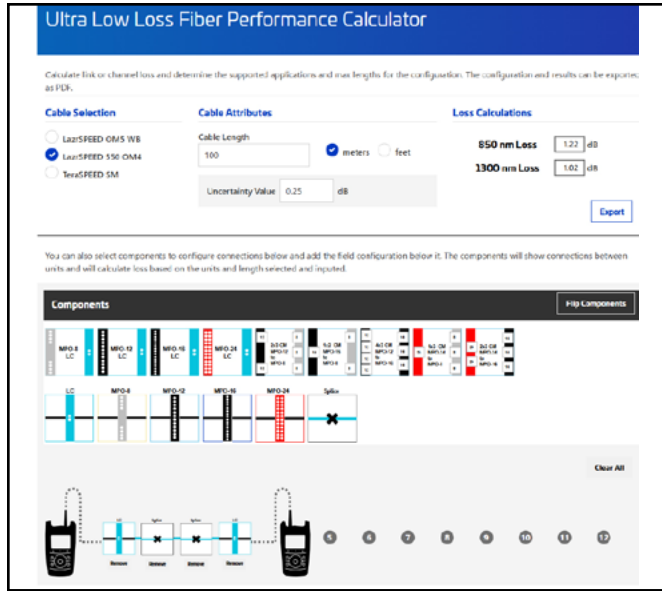
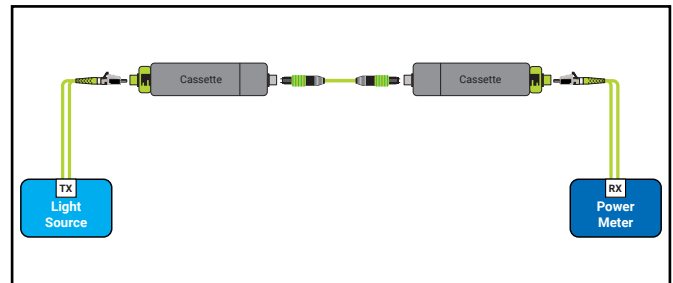

Figure 5: Link segment testing
Figure 6: Link segment testing
Figure 5 shows an example of 100m OM4 Link, with 2 LC ULL connection and 2 splices. The values for 850nm shall be lower than 1.22dB
As illustrated in the example in Figure 6, the MPOs are at the rear of the module and not connected directly to the test cords. If testing 2 fibers at a time, the technician must test all 12 fibers of the MPO link with 6 individual tests. In this case, the link can be tested through the single-fiber connections and the testing process follows the procedures outlined previously in this section.
In the test shown in Figure 6, there are two MPO-LC modules. Examples of how each loss budget calculation tool is used to determine the maximum loss for this link is show in Figure 5 and 7.
6. Connect to the ends of the link under test as shown in Figure 6.